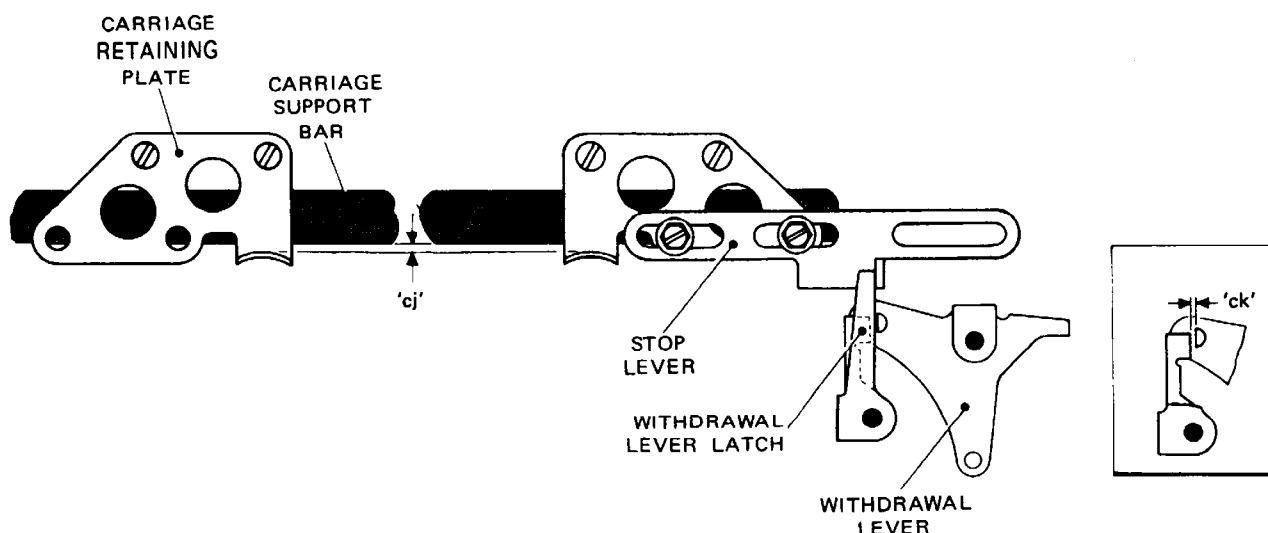

Fig. 4.95 CARRIAGE RESET MECHANISM
- 104.1 With the type carriage approximately in the centre of its traverse, check that there is a maximum clearance of 0.004 inch (dimension 'cj') between the underside of the carriage support bar, Fig. 4.95, and the two carriage retaining plates.
105.1 With the type carriage resting against its stop screw, Fig. 4.92, check that there is a clearance of 0.005–0.050 inch (dimension 'ck') between the rear arm of the withdrawal lever latch, Fig. 4.95 inset, and the pin on the withdrawal lever.